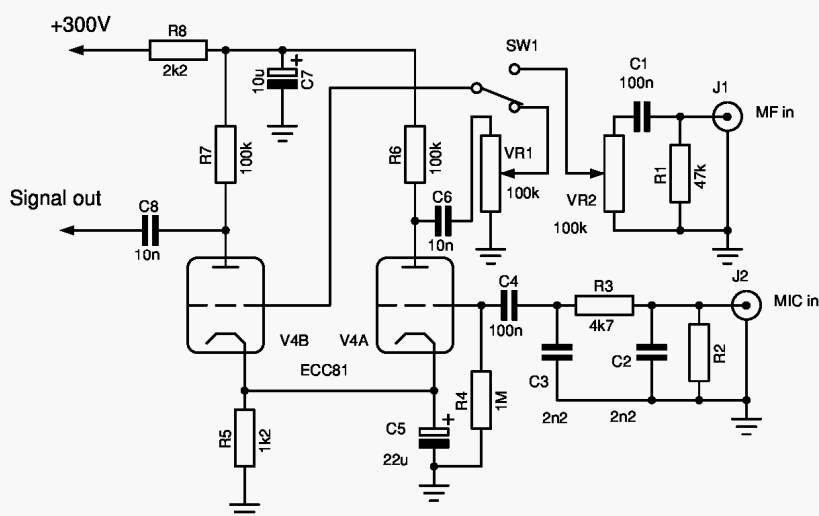

Figure 3 A simple audio preamplifier to suit the Class B output stage
For those who wish to use the AM transmitter to transmit not only speech signals but also musical frequencies (MF) then switching between the two is often a problem. The preamplifier shown in Figure 3 does all this with individual level setting pots for each mode. Switching is by a small toggle switch.